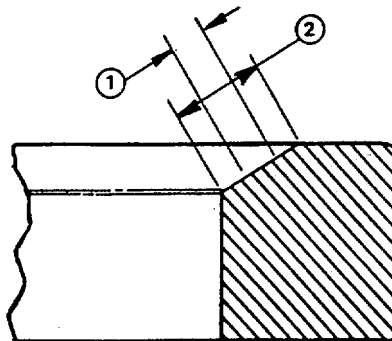

FIGURE 4-22. Valve Seat Width Measurement.
- (10) Measure the valve seat width indicated by the lapped surface. (FIGURE 4-22)